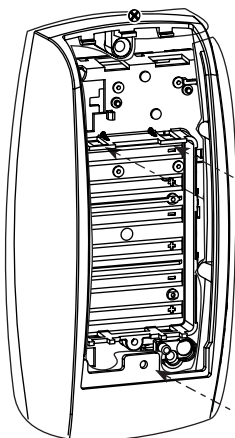

Fig. 14B
2. Unscrew the bottom screw of the battery keeper and remove the battery keeper, being careful not to break the top tabs holding it in place (Fig.14B).
3. Place (6) "AA" alkaline batteries in the compartment, being careful to align polarity properly.
4. Replace battery keeper, being careful to engage tabs on the top to hold it in place (Fig. 14B).